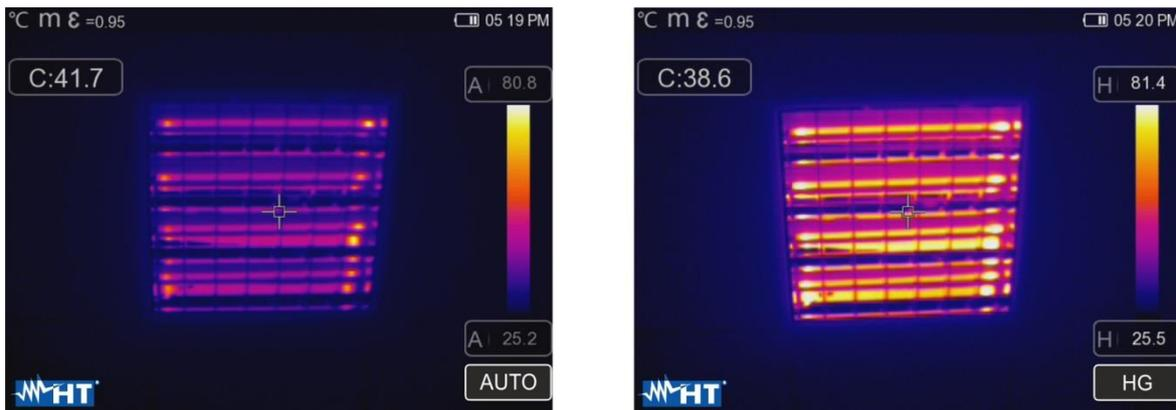

Fig. 42: Setting the Automatic and Histogram modes
- **Histogram (HG)** mode → the minimum and maximum temperature levels of the object framed on the display are always defined automatically by the instrument, as in the Auto mode, but in this case, the areas of the image in which temperature values are very different from the values of adjacent areas are highlighted. The relationship between temperature and color of the palette is **non-linear** according to a histogram algorithm. This mode emphasizes image display in very dark working environments.
1. Press key or touch the icon “AUTO” found at the bottom on the right side of the display. The screens in Fig. 42 show the selection of modes “AUTO” and “HG”.